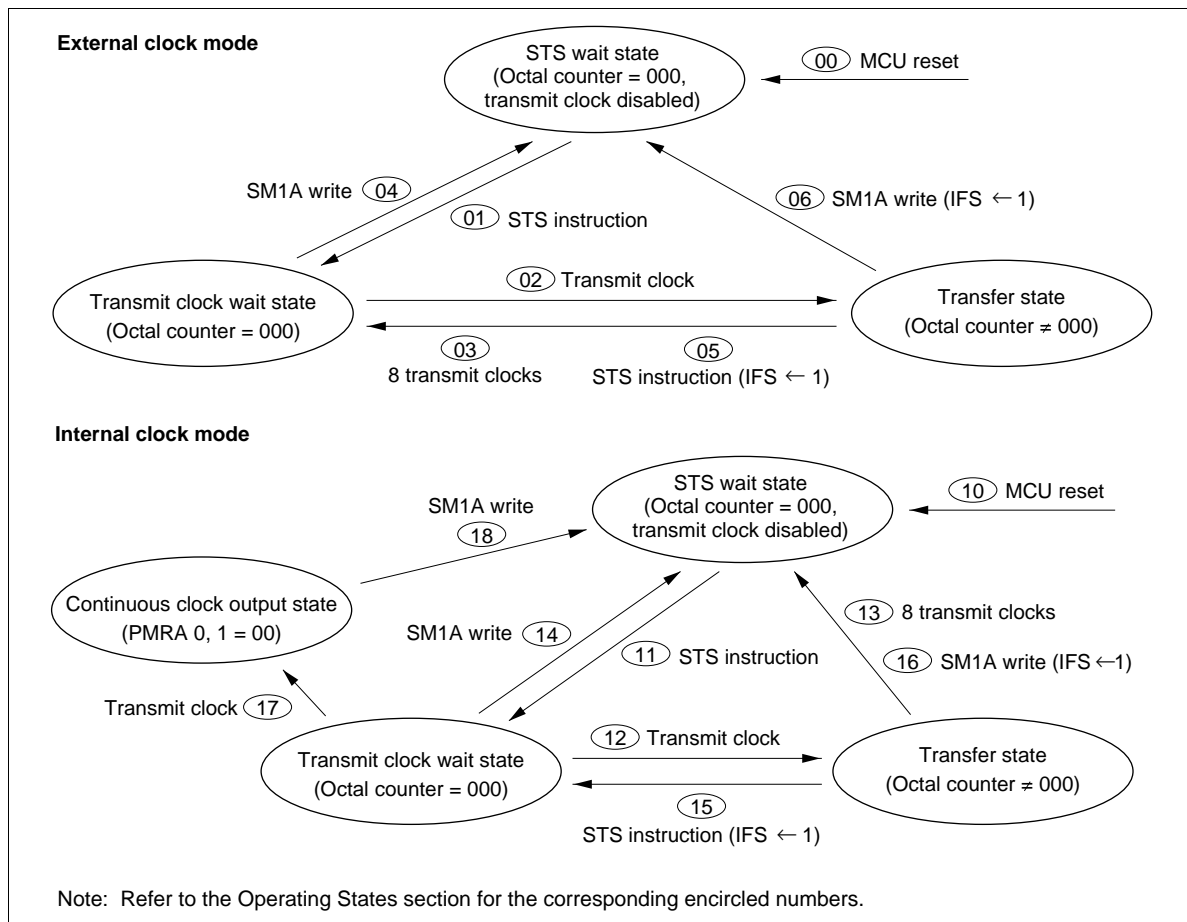

Figure 67 Serial Interface State Transitions
Operating States: The serial interface has the following operating states; transitions between them are shown in figure 67.
- STS wait state: The serial interface enters STS wait state by MCU reset (00, 10 in figure 67). In STS wait state, serial interface 1 is initialized and the transmit clock is ignored. If the STS instruction is then executed (01, 11), serial interface 1 enters transmit clock wait state.